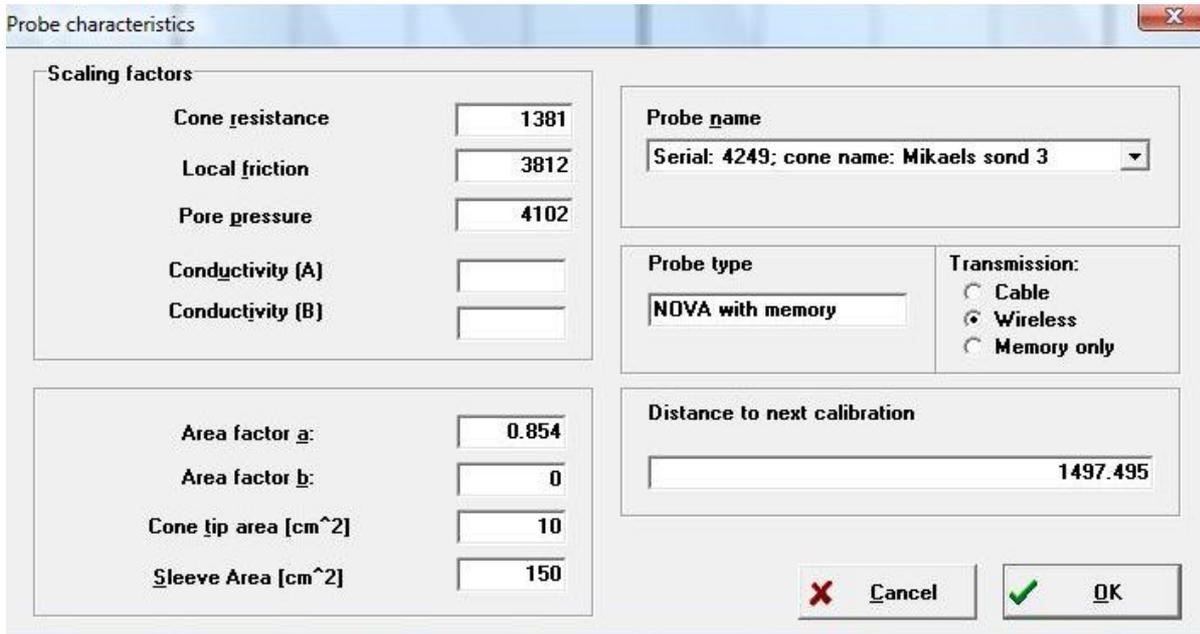

Fig. 3-4: Probe characteristics, press F7
2. Check the probe parameters – under Options menu, choose **Probe characteristics** – F7 (Fig. 3-4). Factor “a” is generally around 0.58 – 0.62 and “b” around 0.014. These characteristics are saved in the "Cone Database".
- Probe characteristics will appear (Fig. 3-4).